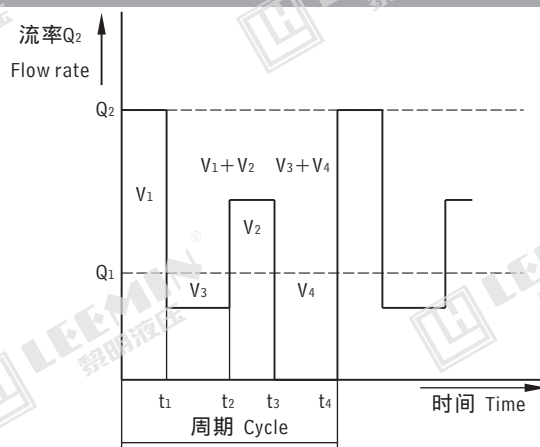

图2
1、如果在液压回路中短时间内流量变化较大，使用蓄能器就能选用较小的泵和电机，从而降低了设备费用和操作费用。图2所示的运用周期需要一个具有 Q_2 流量的泵。如果应用蓄能器，在时间周期 (t_1-t_2) 和 (t_3-t_4) 内蓄油，因为此时需要的油流量很小，或者甚至不需要用油。当所要求的流量高于泵送量 Q_1 时，在 t_2 和 t_3 周期内可使用蓄能器供油。选择泵送量 Q_1 须满足 V_1+V_2 V_3+V_4 。
In the case of hydraulic circuits where a large flow rate is required for a short period, alternating with a low or no flow condition, the use of an accumulator allows smaller pumps and motors to be used, thus reducing both installation and operating costs. The operation cycle shown in figure2 would require a pump having a capacity Q_2 . If an oilpneumatic accumulator is used, it is possible to store oil during the time periods (t_1-t_2) and (t_3-t_4) when requirement is very low or zero, and to re-utilize. During t_2 and (t_2-t_3) , when the required flow rate is higher than the pump capacity Q_1 . This pump must be selected to have the volumes V_1+V_2 V_3+V_4 .